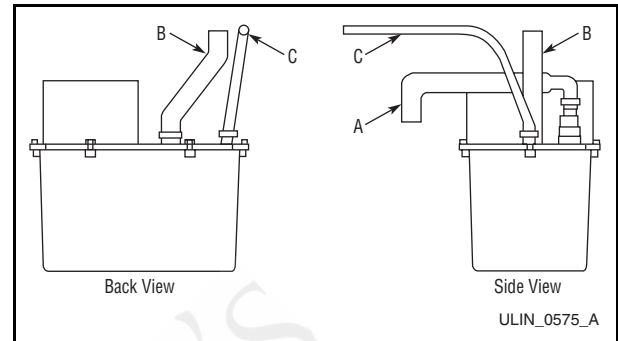

Figure 7
4. Check that the clamps and hose connections are tight at the following areas (**Figure 7**):
- Discharge tube (A)
- Drain tube (B)
- Vent tube (C)